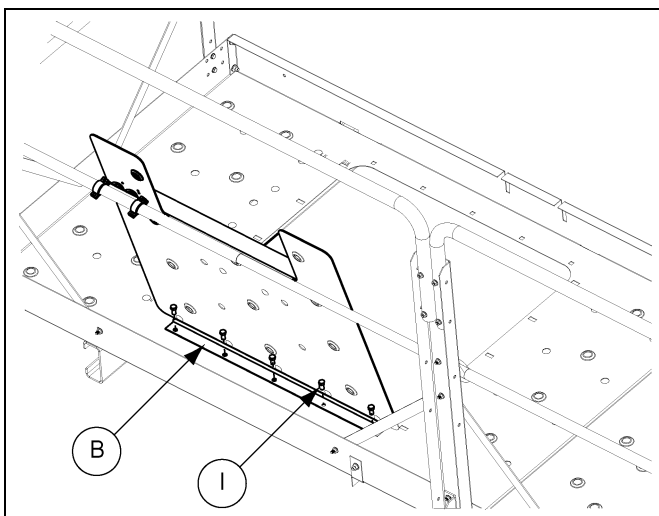

Figure 9D
6. Align holes on the hatch hinge with holes along the deck opening closest to the kick plates. Install the hatch door to the decking using 3/8" x 3/4" bolts (S-7105) and nuts. *(See Figure 9D.)*